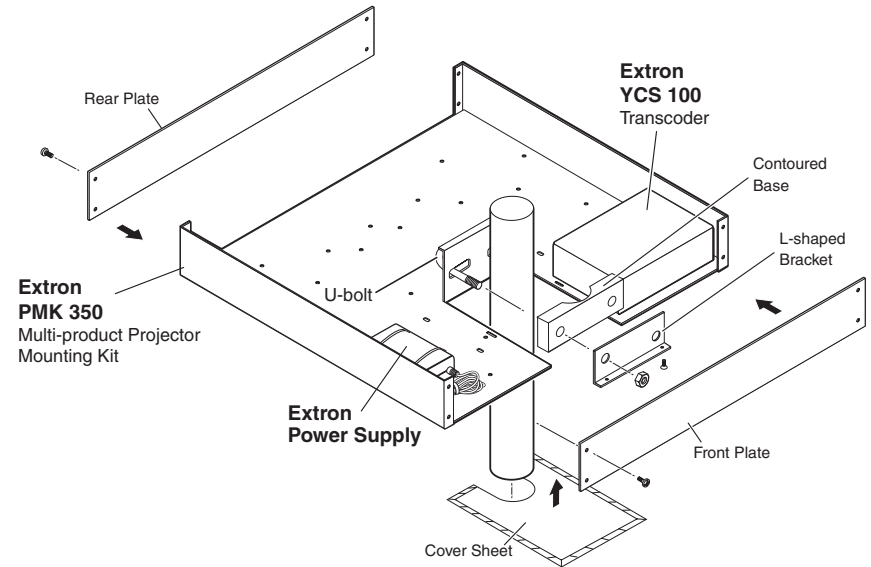

Figure 2-10 — Projector-mounting the YCS 100 using the PMK 350 Projector Mount Kit
- Place the bracket around the projector ceiling mounting pole as shown in figure 2-10.